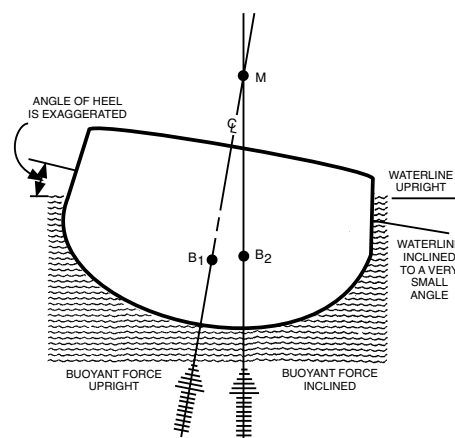

Figure 12-22. The metacenter.
A ship's **METACENTER** (M) is the intersection of two successive lines of action of the force of buoyancy, as the ship heels through a very small angle. Figure 12-22 shows two lines of buoyant force. One of these represents the ship on even keel, the other at a small angle of heel. The point where they intersect is the initial position of the metacenter. When the angle of heel is greater than the angle used to compute the metacenter, M moves off the centerline and the path of movement is a curve.